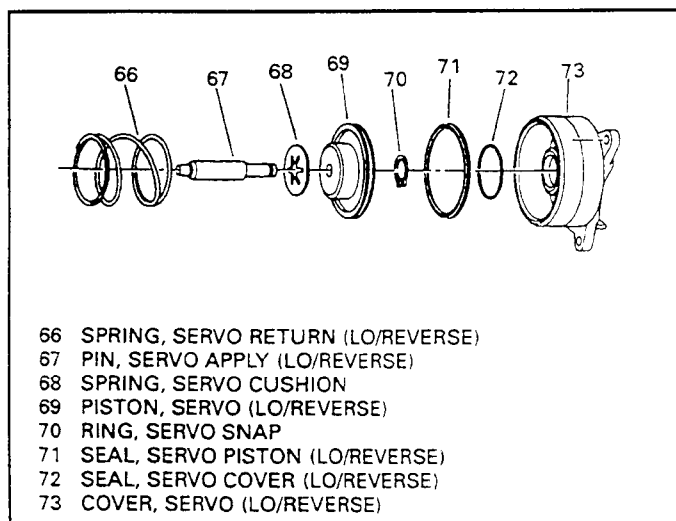

Figure 192
7. Assemble the lo/reverse servo cushion spring (68) and servo piston onto the servo apply pin as shown in Figure 192.
8. Install new servo seals (71) and (72) onto the servo piston and servo cover and lubricate with "Trans-Jel", as shown in Figure 192.
9. Assemble the lo/reverse servo piston into the servo cover, as shown in Figure 192.